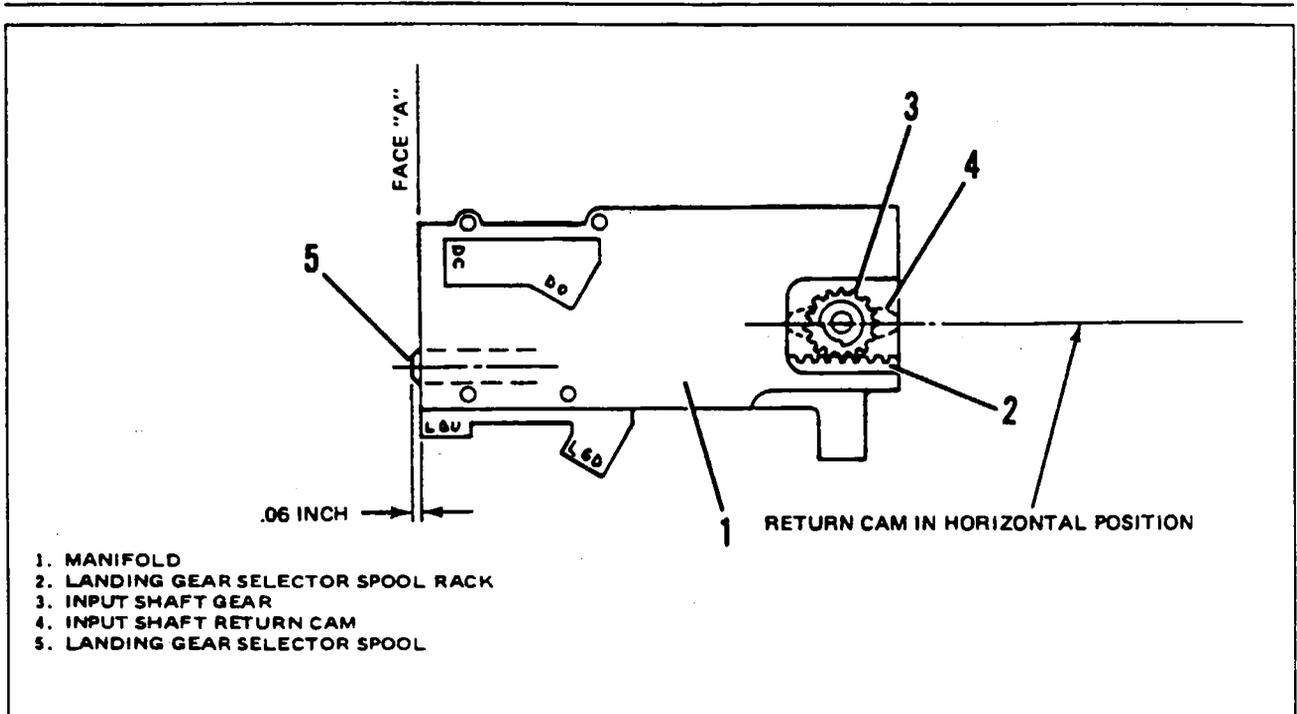

Figure 6-16. Indexing of Selector Spool (Wiebel Tool)
When mating the manifold with the Power Pack body, index the landing gear selector spool rack with the input shaft gear as shown in Figure 6-16. With landing gear selector spool (5) protruding .06 inches from face "A" of manifold (1) and the input shaft return cam (4) in the horizontal position, tooth of input shaft gear (3) will match with tooth space in the landing gear selector spool rack (2).
- d. Install the four manifold attaching bolts and torque to 35 inch-pounds. Do not over torque bolts as this will cause binding of the landing gear selector spool (17).
- e. Lubricate "O" ring (22) and "O" ring (24) and install on plunger (23).
- f. Install plunger (23) and lubricated spring (25) into manifold (35).
- g. Lubricate threads of retainer (26), install into manifold (35). Torque to 25 inch-pounds and safety wire retainer (26) to manifold (35) using wire (47).